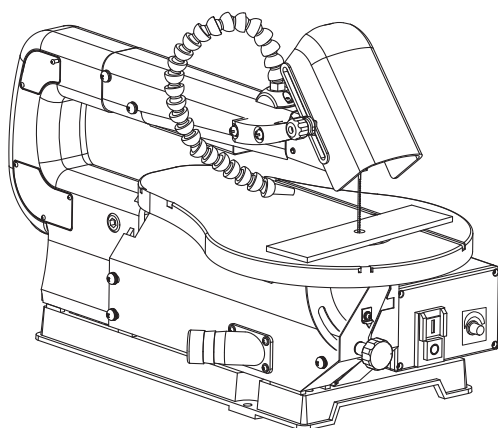

Fig. 13
- > Also for sawing internal contours, first drill a hole through which you can thread and tension the saw blade. The closed internal contour can then be sawn out. (Fig. 13)